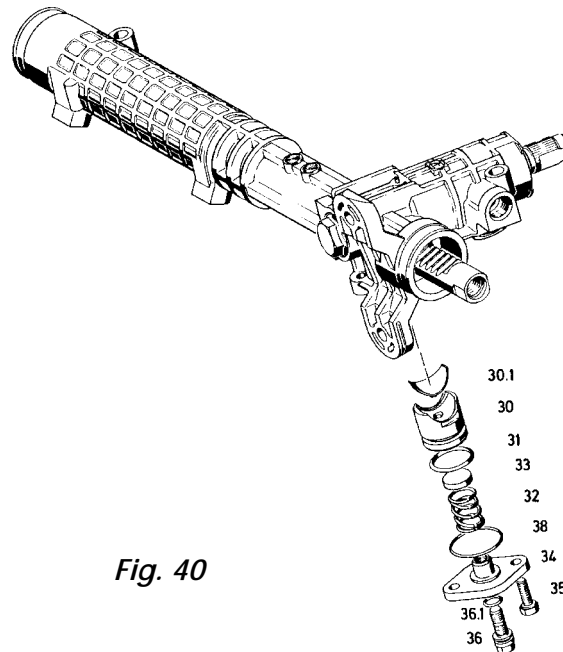

Fig. 40
9.1.1 Versions without adjusting screw (36)
Insert the yoke (30) with the insert foil (30.1), but without the O-rings (31), in the housing (1) (*Fig. 40*).
9.1.2 Version with adjusting screw (36)
Insert the yoke (30), with the insert foil (30.1) and the O-ring (31) fitted, into the housing (1) (*Fig. 40*).